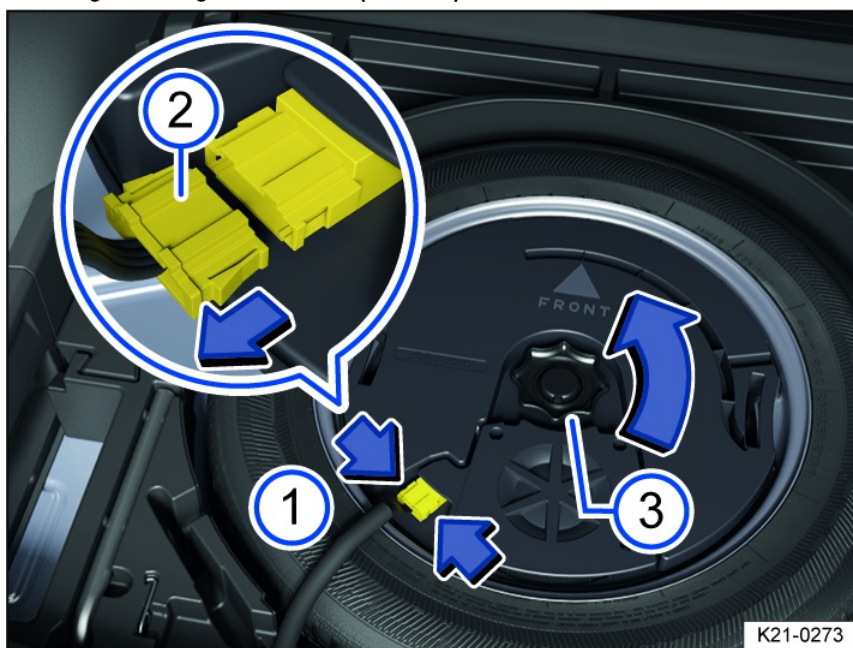

Fig. 213 In the luggage compartment: removing the subwoofer (version 1).
6. To release the connector, press the fig. 213 lugs together (arrows ①).
7. Remove the connector fig. 213 in the direction of the arrow and set the removed wire to the side.
8. Unscrew the handwheel fig. 213 in the direction of the arrow.
2. Push the connector fig. 213 in until you hear it click into place.
3. Turn the handwheel fig. 213 on the threaded pin in the opposite direction to the arrow until the subwoofer is securely fastened.